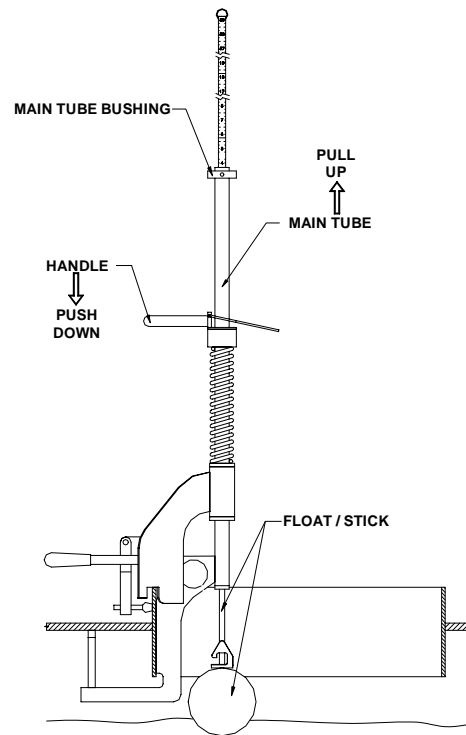

FIGURE 2
- 5) See Figure 2. With one hand grasping the main tube and the other hand on the handle, pull up on the main tube until the contact tip comes in contact with the underside of the tank shell. At the same time, push down on the handle to compress the spring. This secures the contact tip to the underside of the shell.